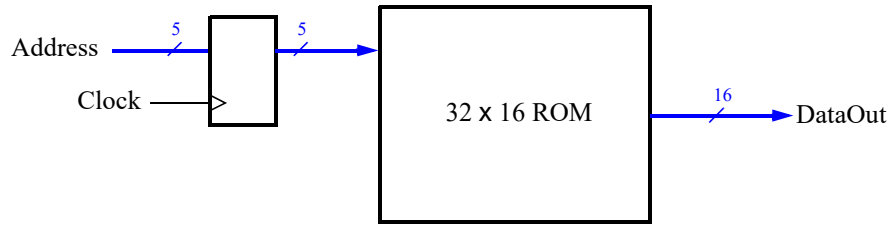

Figure 6: The 32 x 16 ROM with address register.
3. A diagram of the memory module that you need to create is depicted in Figure 6. Since this memory module has only a read port, and no write port, it is called a *synchronous read-only memory (synchronous ROM)*. Note that the memory module includes a register for synchronously loading addresses. This register is required due to the design of the memory resources in the Intel FPGA chip.